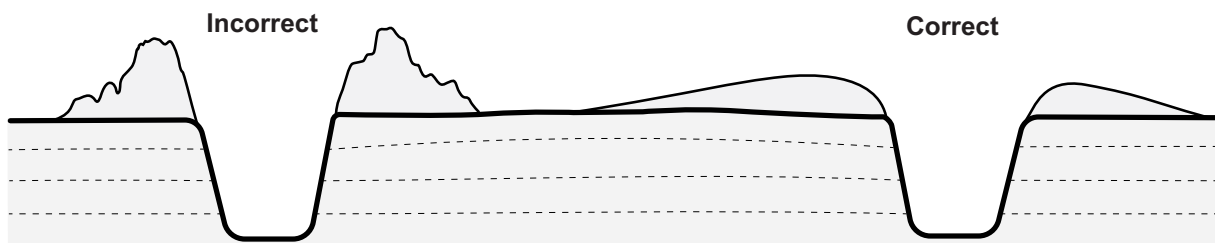

Figure 16-3. Snow Removed from a Trench.
- The snow excavated from positions should be smoothed out and not left in humps and uneven piles that cast obvious shadows (see Figure 16-3).